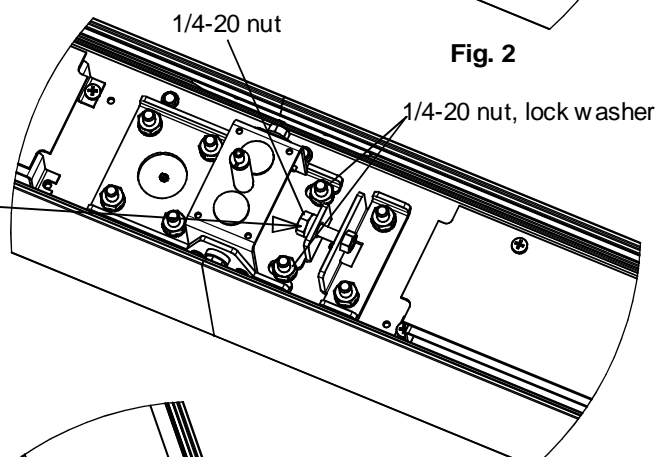

Fig. 3
6. Tighten nuts (x2) from step 4 (Fig. 3).
7. Lock 1/4-20 bolt into place by tightening 1/4-20 nut. (Fig. 3)